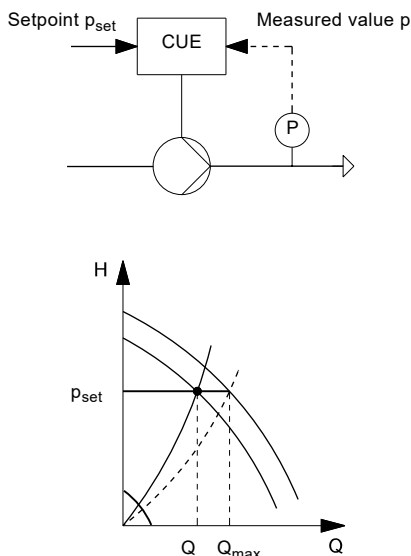

Fig. 112 Constant pressure control
The PID controller compares the required setpoint (p_{set}) with the actual value (p) measured by the transmitter (P). See fig. 112.